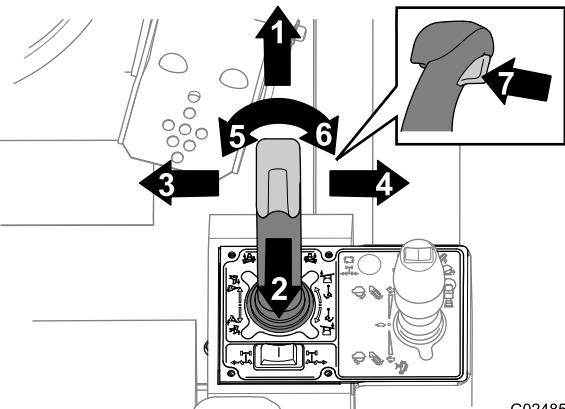
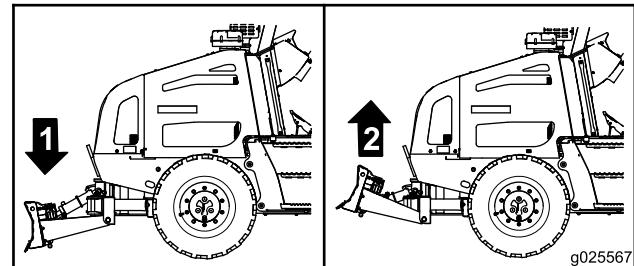
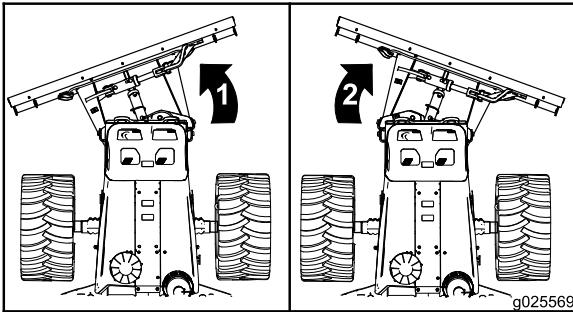
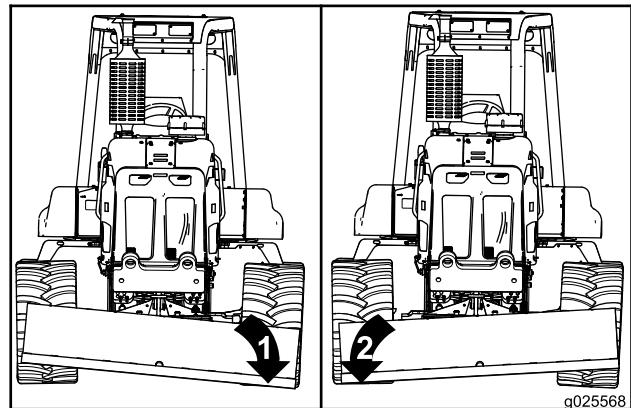

Figure 47
Figure 48
Figure 49
Figure 51
- 2. Slowly raise and lower the backfill blade by moving the right joystick rearward and forward (Figure 47 and Figure 48).
- 4. Pivot the blade fully right by pressing the right-thumb control (Figure 47 and Figure 49).
- Lower the backfill blade to the ground by moving the right joystick forward (Figure 47).
- Slowly turn the backfill blade left and right by pressing the left and right-thumb controls (Figure 47).
- Slowly tilt the backfill blade down at the left side and then down at the right side by twisting the right joystick clockwise and counterclockwise (Figure 47 and Figure 51).